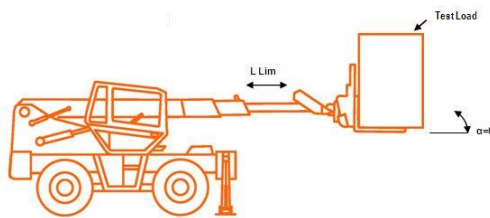
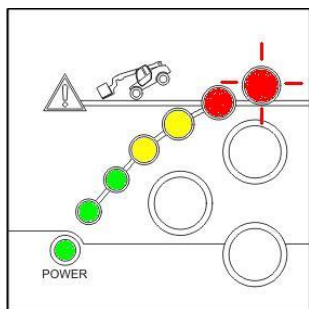

Figure 3.2.41
Figure 3.2.42
10) Step 10, it is necessary to make the telescopic handler reach the state as shown in Fig. 3.2.41, that is, the boom is at a horizontal angle and supporting outriggers are supported. The extension length is the limit length that can be extended according to the weight. Press OK button once. The indicator changes to the state as shown in Figure 3.2.42.